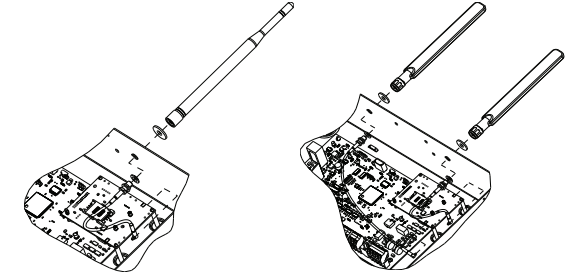

Figure 4: Installing an antenna
4. To secure the antenna, place a nylon washer on each side of the hole in the panel and screw the cable to the antenna. See Figures 4 and 5.